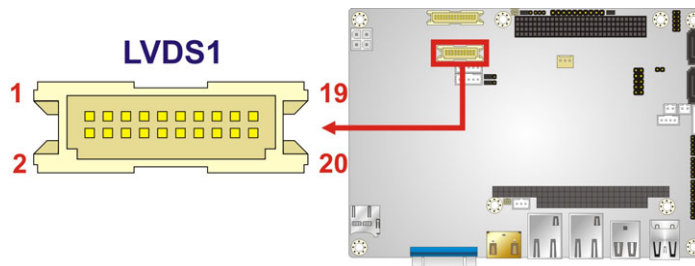

Figure 3-11: LVDS1 Connector Location
- CN Location:** See Figure 3-11